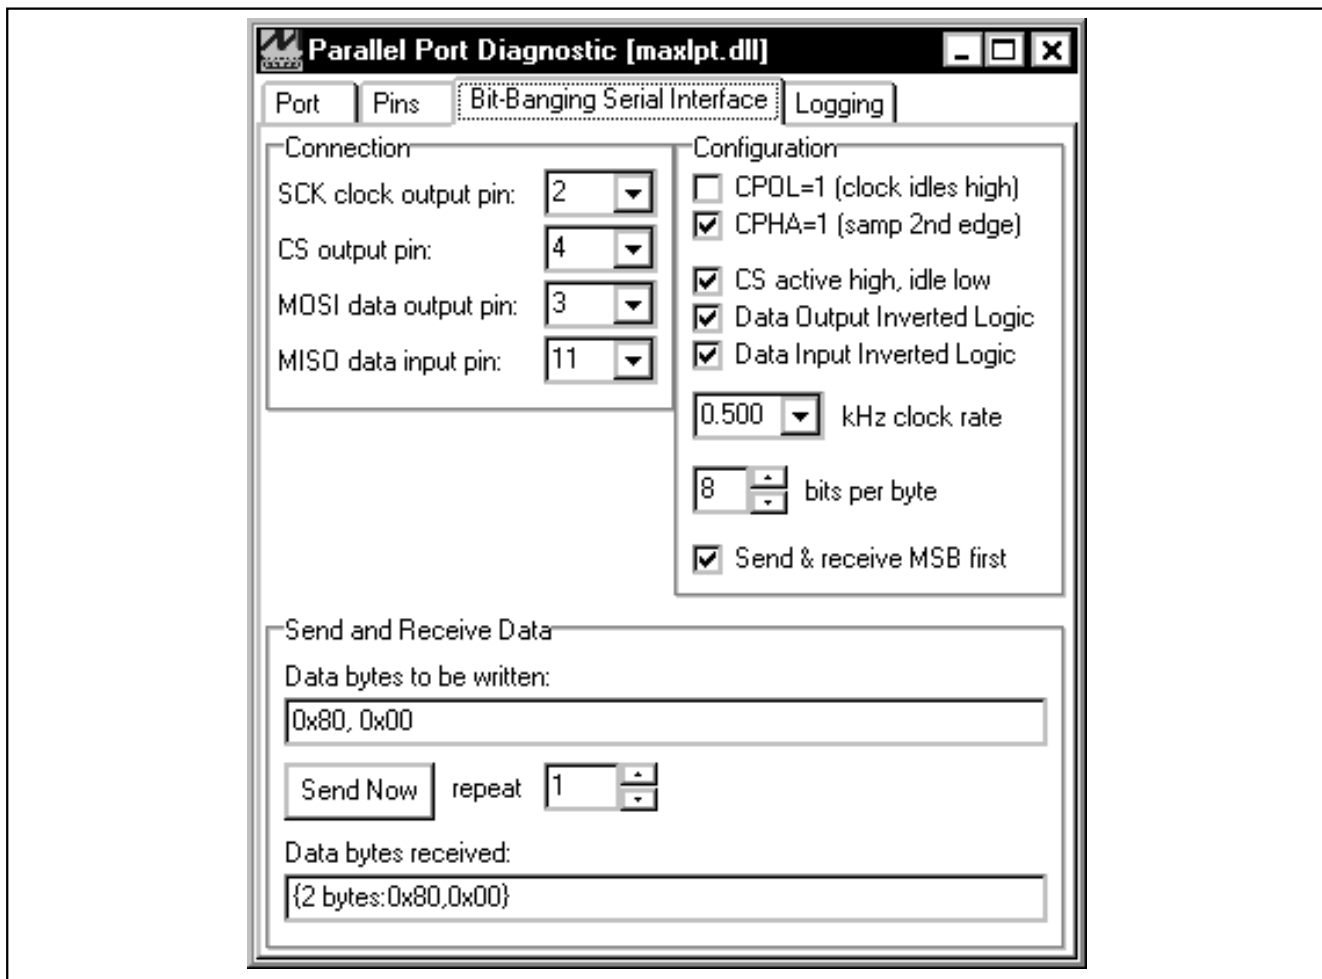

Figure 3. SPI Utility Showing the Settings to Communicate with the MAX1968 EV Kit
There are two methods for communicating with the MAX5144 DAC: through the user-interface panel or through the general-purpose SPI utility. This utility (Figure 3) configures SPI parameters such as clock polarity (CPOL), clock phase (CPHA), and chip-select (CS) polarity.